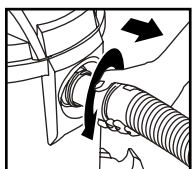

FIGURE 24
32. Unscrew hose locking-nut and remove hose from inlet. **FIGURE 24.**